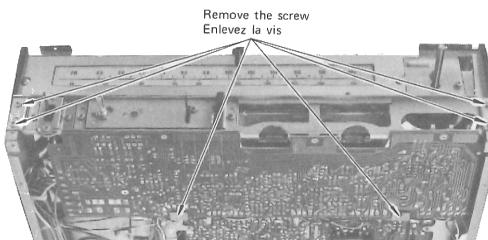

Fig. 2
- (1) Remove the meter lead wire from the Control printed wiring board.
- (2) Remove the six screws. (Fig. 2)